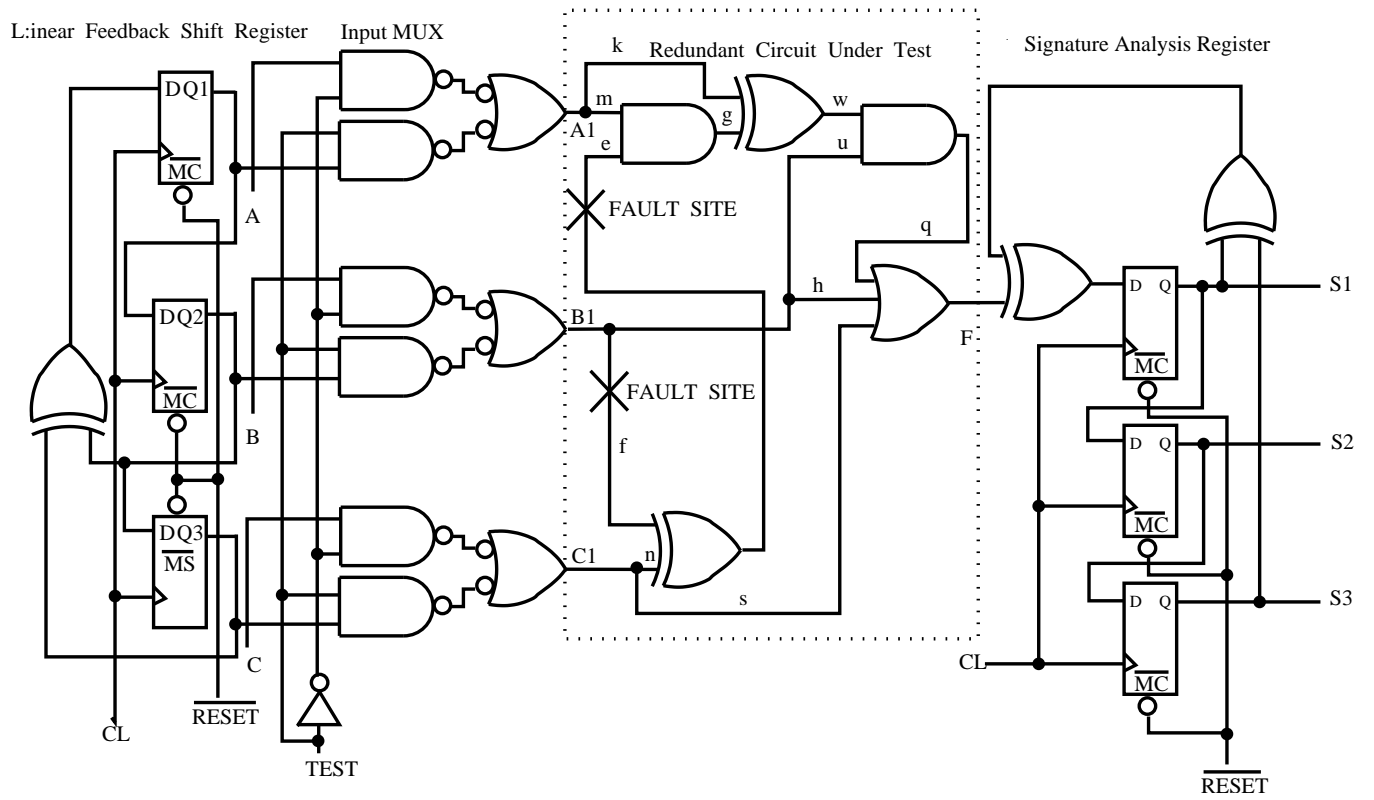

Figure 1: Hardware for Problem 1
3. *Built-In Self-Testing Circuits.* In the logic diagram in Figure 1, the portion of the circuit outlined in dashed lines is the actual circuit to be tested. Signals $A1$, $B1$, and $C1$ are the inputs to the circuit and signal F is the circuit output. The logic to the left of the circuit is very similar to the hardware used to calculate a cyclic code, and is called a *Linear Feedback Shift Register*. This register is initialized to $Q1 Q2 Q3 = "001"$ for normal circuit operation, and Inputs A , B and C are then used to drive signals $A1$, $B1$ and $C1$ in functional operation mode when $TEST = 0$. The circuit output is taken from signal F . The logic to the right of the circuit output F is also very similar to the cyclic code generator, and is called a *Signature Analysis Register*. The Signature Analysis Register is not used in normal circuit operation, and outputs $S1$, $S2$ and $S3$ are ignored during normal operation.